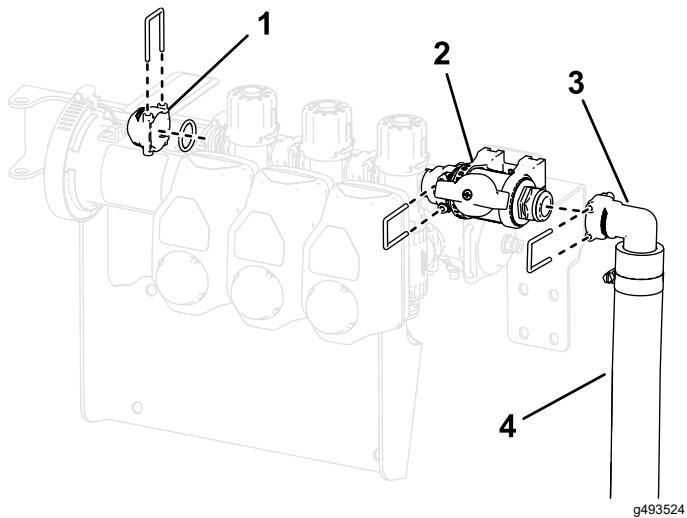

Figure 29
7. Secure the control valve assembly to the boom valve with the previously removed O-ring and retainer as shown in Figure 29.
8. Install the cap (1/2 inch), O-rings, fitting, and hose assembly onto the control valve using the retainers previously removed as shown in Figure 29.